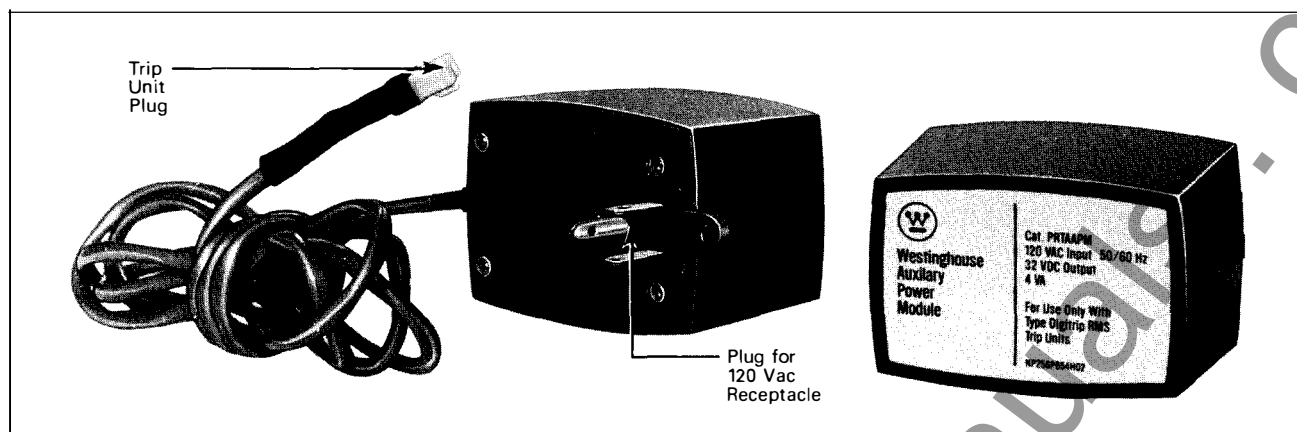

Fig. 7 Auxiliary Power Module
NOTE: For Testing Purposes Only: When using an external single phase current source to test low level ground fault current settings, it is advisable to use the Auxiliary Power Module (APM) (See Fig. 7). Especially when the single phase current is low, without the APM it may appear as if the trip unit does not respond until the current is well-above the set value, leading the tester to believe there is an error in the trip unit when there is none. The reason this occurs is that the single phase test current is not a good simulation of the normal three phase circuit. If three phase current had been flowing, the trip unit would actually have performed correctly. Use the APM for correct trip unit performance whenever single phase tests are made.
Since the Digitrip RMS 510 Trip Unit is completely self-powered using energy derived from the current sensors installed in the circuit breaker, all in-service tests conducted should be conducted with the auxiliary control power module, shown in Fig. 7, plugged into the trip unit. This action will avoid difficulties caused by load current levels that are too low to operate the trip unit.
- 1) **Before starting any test sequence, check the Unit Status (Green LED) in the lower right corner of the trip unit (See Figs. 1 and 5) to be sure it is blinking on and off about once each second, which indicates that the trip unit is functioning normally.** In the event the Unit Status LED is not blinking, install an Auxiliary Power Module (APM) (See Fig. 7), or if you have one already, check to see that it is connected correctly.
- a) **the current is not less than 10% of the breaker frame (or current sensor) rating; be sure the "GREEN" Unit Status LED (in the lower right corner of the trip unit (See Figs. 1 and 5) is blinking on and off (indicating that there is enough current flowing to provide the power necessary to operate the trip unit). In the event the Unit Status LED is either lighted "GREEN" or "OFF" continuously, there is NOT enough current flowing to power the trip unit; and an APM (See Fig. 7) should be installed before proceeding with the test.**
For testing the trip unit, an optional Auxiliary Power Module (Cat. No. PRTAAPM) as shown in Fig. 7 is recommended. This Auxiliary Power Module, which operates from a separate 120 Vac supply, may be used when a drawout circuit breaker is in any of its four cell positions, i.e., "Connected", "Test", "Disconnected" and "Withdrawn" (or "Removed.")
NOTE: For Testing Purposes Only: When using an external single phase current source to test low level ground fault current settings, it is advisable to use the Auxiliary Power Module (APM) (See Fig. 7). Especially when the single phase current is low, without the APM it may appear as if the trip unit does not respond until the current is well above the set value, leading the tester to believe there is an error in the trip unit when there is none. The reason this occurs is that the single phase test current is not a good simulation of the normal three phase circuit. If three phase current had been flowing, the trip unit would actually have performed correctly. Use the APM for correct trip unit performance whenever single phase tests are made.
The Auxiliary Power Module or APM (Cat. No. PRTAAPM), illustrated in Fig. 7, is an encapsulated power supply that requires a 120 Vac input at either 50 or 60 Hz. It provides an output of 32 Vdc (nominal 40 Vdc open circuit) which can be used for testing a Digitrip RMS 510 Trip Unit.